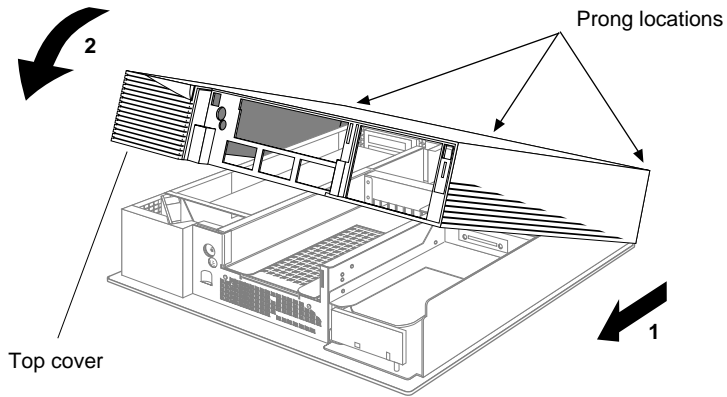

Figure 8-45 Replacing the Top Cover on the Indigo² Chassis
1. Place the prongs on the underside of the cover into the slots under the top ridge of the backplane of the chassis, as shown in Figure 8-45.